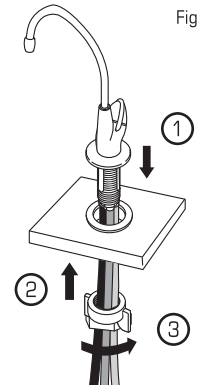

Fig. 20
3. Holding the foam gasket in place against the faucet body, lower the eSpring Faucet stem and tubes through the hole in the sink ledge or counter ①. With an assistant holding the faucet in place, reach up from below the counter and slide the wing nut onto the threaded faucet ②. Position the faucet in the desired orientation and tighten the wing nut to secure the faucet in place ③ (Fig. 20).